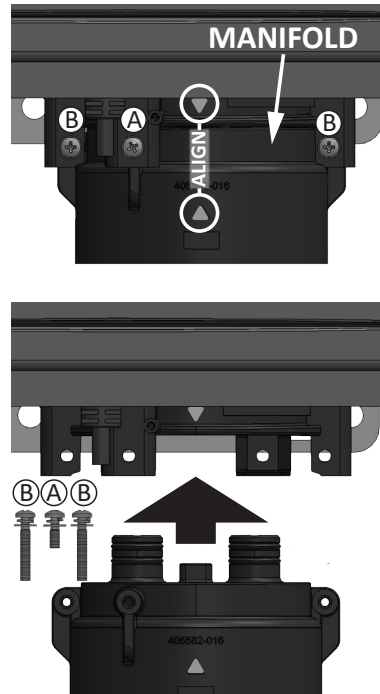

Figure 49 - Bypass Cartridge Installation
the screws when removing them. Reference Figure 49.
- 1 Locate the three (3) screws removed earlier. Set the one M4-12mm screw **(A)** and two M4-25mm screws **(B)** aside in a safe place for re-installation.
**NOTICE:** When inserting the cartridge, push up until the screw holes align. Some resistance is normal. See Figure 49.